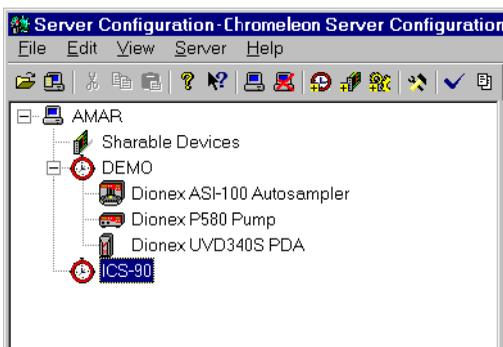

Figure 2-7. Example: Creating a Timebase
2. A clock icon appears under the server name with a default name highlighted. To use the default name, press **Enter**. To use a different name, type the name and press **Enter**. Figure 2-7 shows an example timebase named ICS-90.